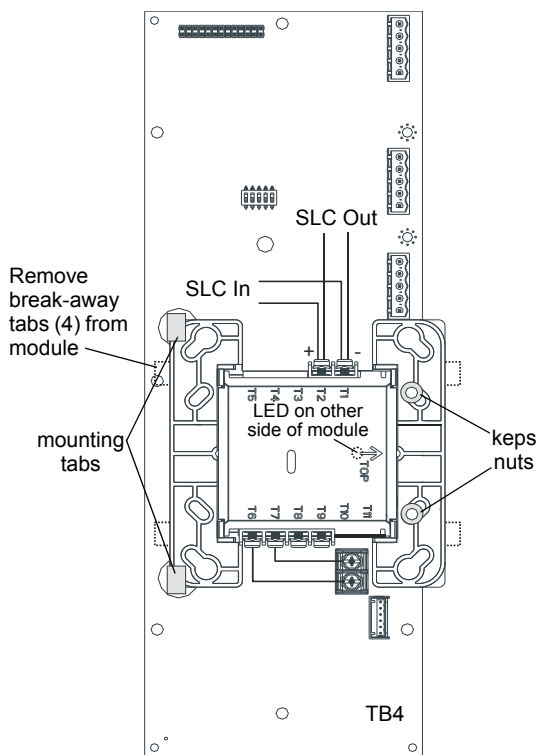

Figure 4 Wiring an MMF-300 to the RPU
1. Remove the two (2) keps nuts that secure the RPU board to the dress panel using a 5/16" socket.
2. Set the SLC address on the MMF-300. Remove the four (4) break-away tabs from the monitor module. See Figure 4.